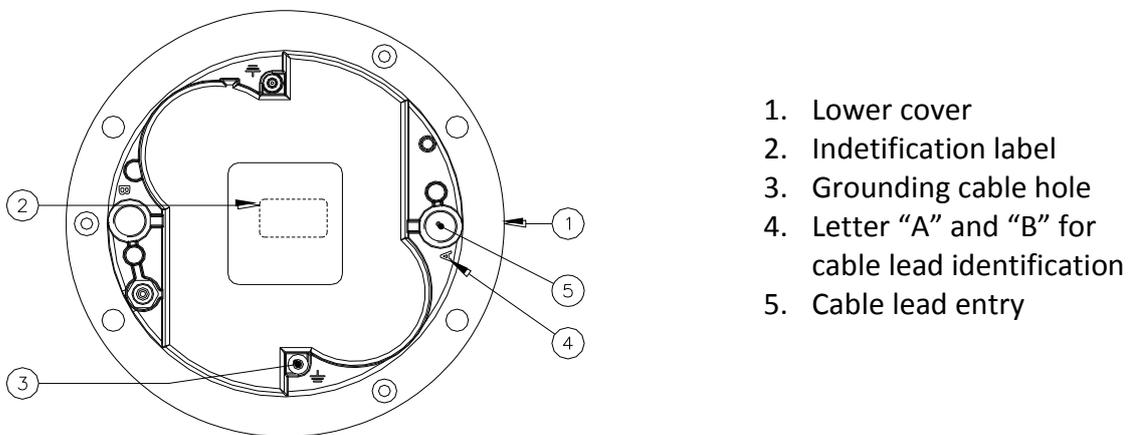

Figure 2 – Lower Cover Outside View
- Figure 2 – Lower Cover Outside View 10
An identification data label is externally applied over the lower cover (Figure 2 – n°2). Moreover, to identify quickly the beam colour, the letter “A” of the dome in front of the window is painted in the same colour of the light beam.